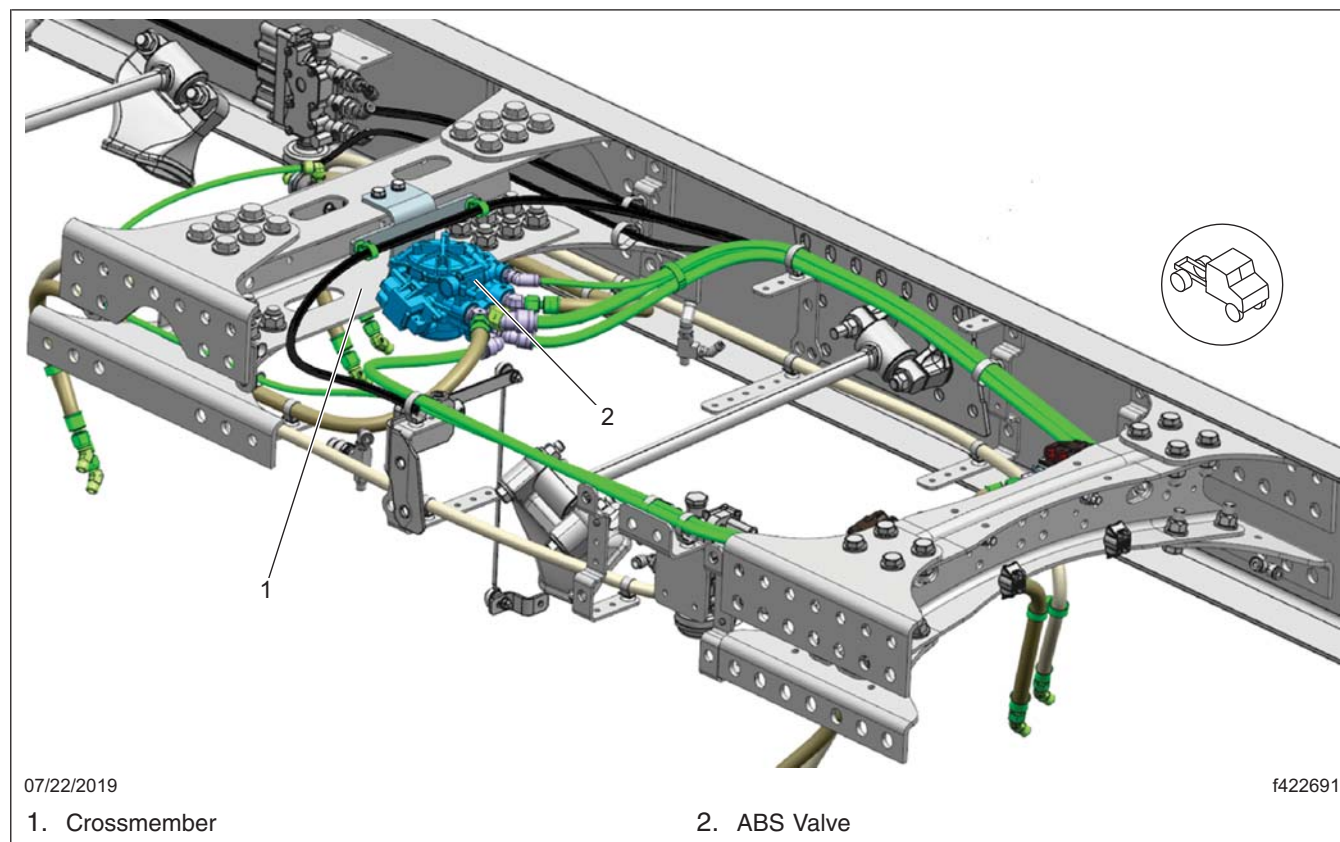

Fig. 1, ABS Valve on the Crossmember
4. Locate the ABS valve on the crossmember. See Fig. 1.